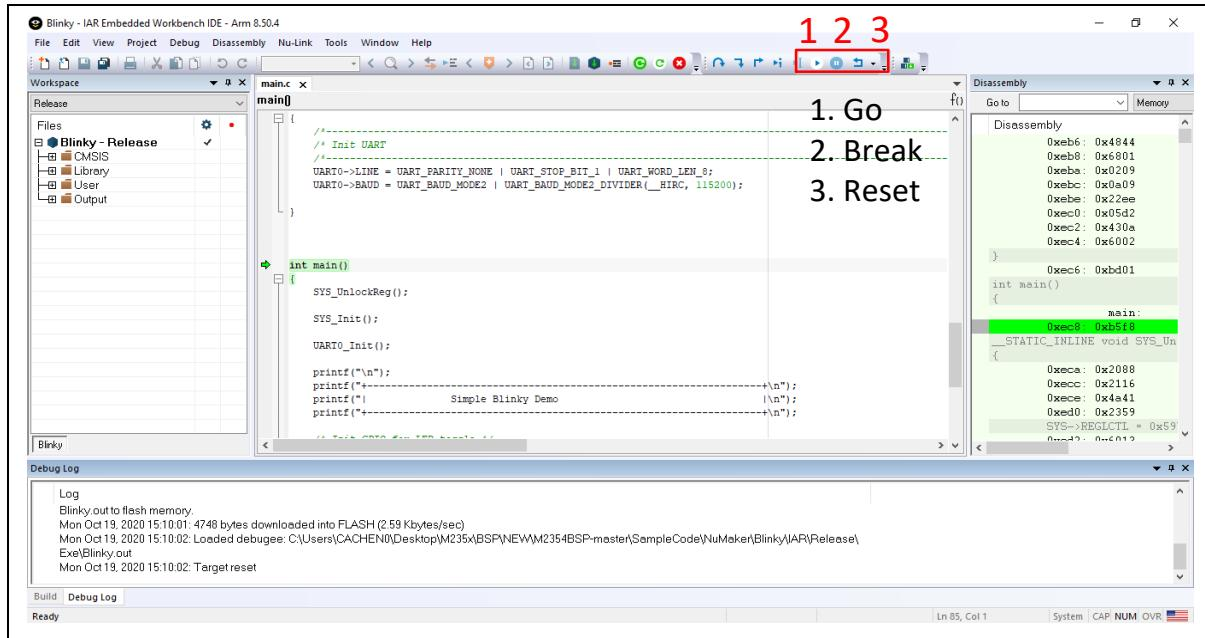
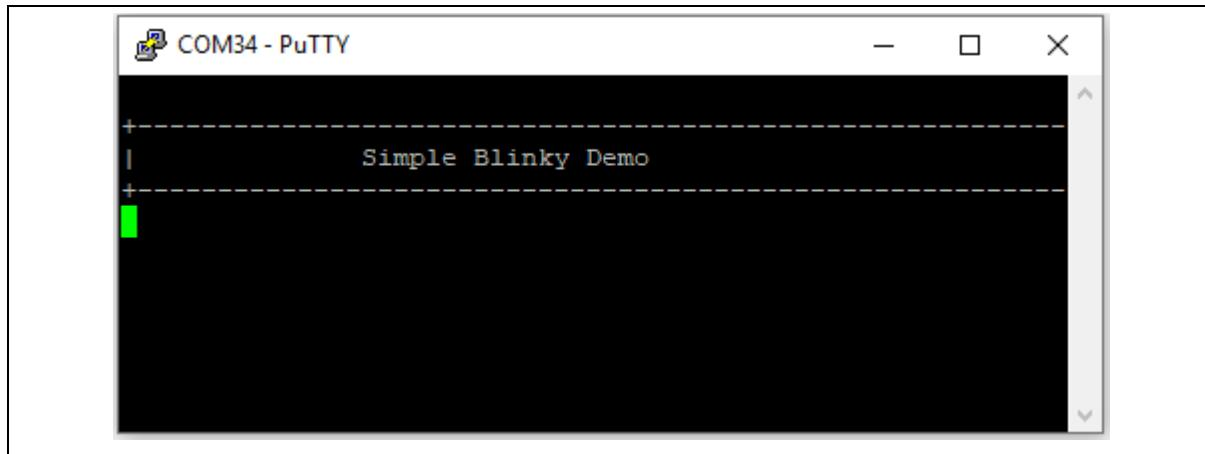

Figure 5-15 IAR EWARM Debug Mode
Figure 5-16 Debug Message on Serial Port Terminal Windows
4. Figure 5-15 shows the debug mode under IAR EWARN. Click “Go” and the debug message will be printed out as shown in Figure 5-16. The project can be debugged under debug mode by checking source code, assembly language, peripherals’ registers, and setting breakpoint, step run, value monitor, etc.